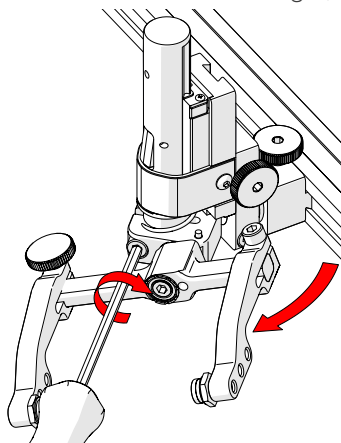

Fig. 116 - Rotate and tighten
3. Tighten the transverse adjustment screw (*Fig. 116*).